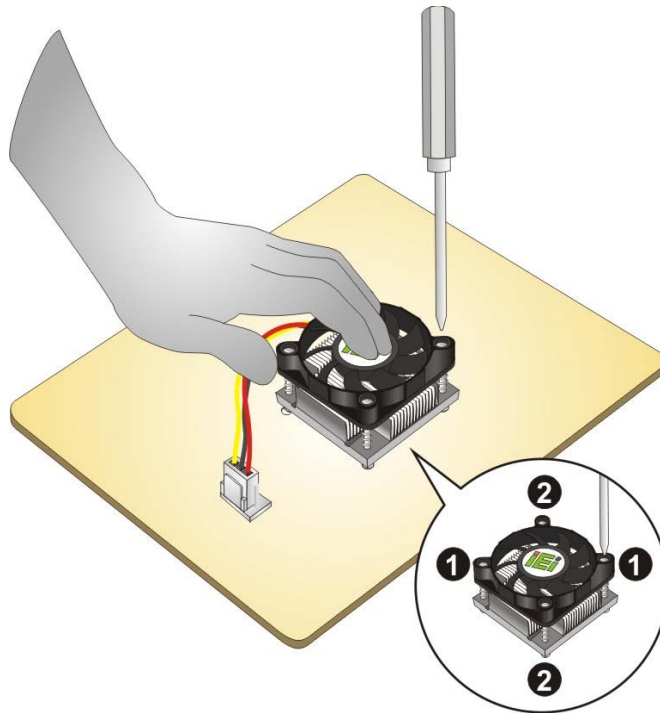

Figure 4-3: Secure the Cooling Kit
Step 4: Place the cooling kit onto the CPU. Push down the fan with some pressure to secure the cooling kit with the support bracket. See **Figure 4-3**.
Step 5: Tighten the screws. Use a screwdriver to tighten the four screws. In a diagonal pattern, tighten each screw a few turns then move to the next one, until they are all secured. Do not overtighten the screws. See **Figure 4-3**.